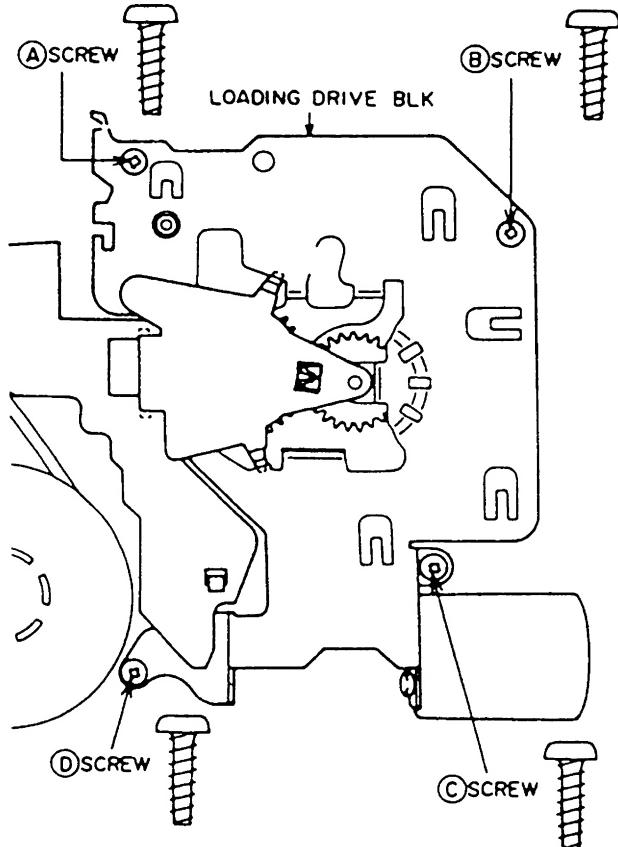

Fig. 3-7
- 3) Remove the Ⓐ, Ⓑ, Ⓒ and Ⓓ screws, then remove the LOADING DRIVE BLK as shown in Fig. 3-7.